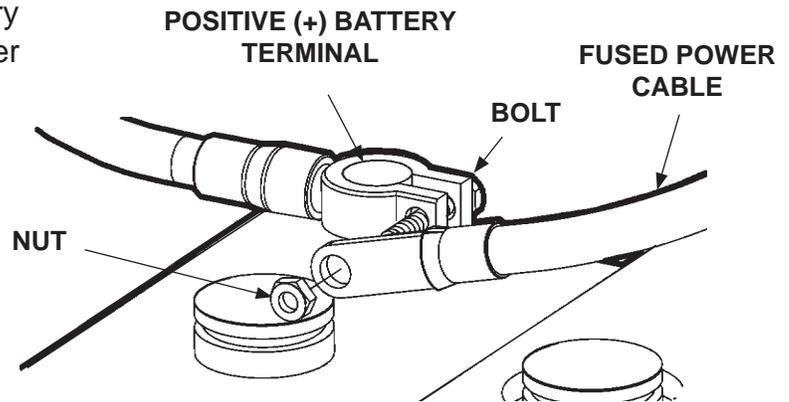

FIG. 6-1
8. Reinstall nut from positive (+) battery terminal connector. Reconnect power cable to positive (+) battery terminal connector (**FIG. 6-1**). Reinstall and tighten nut.